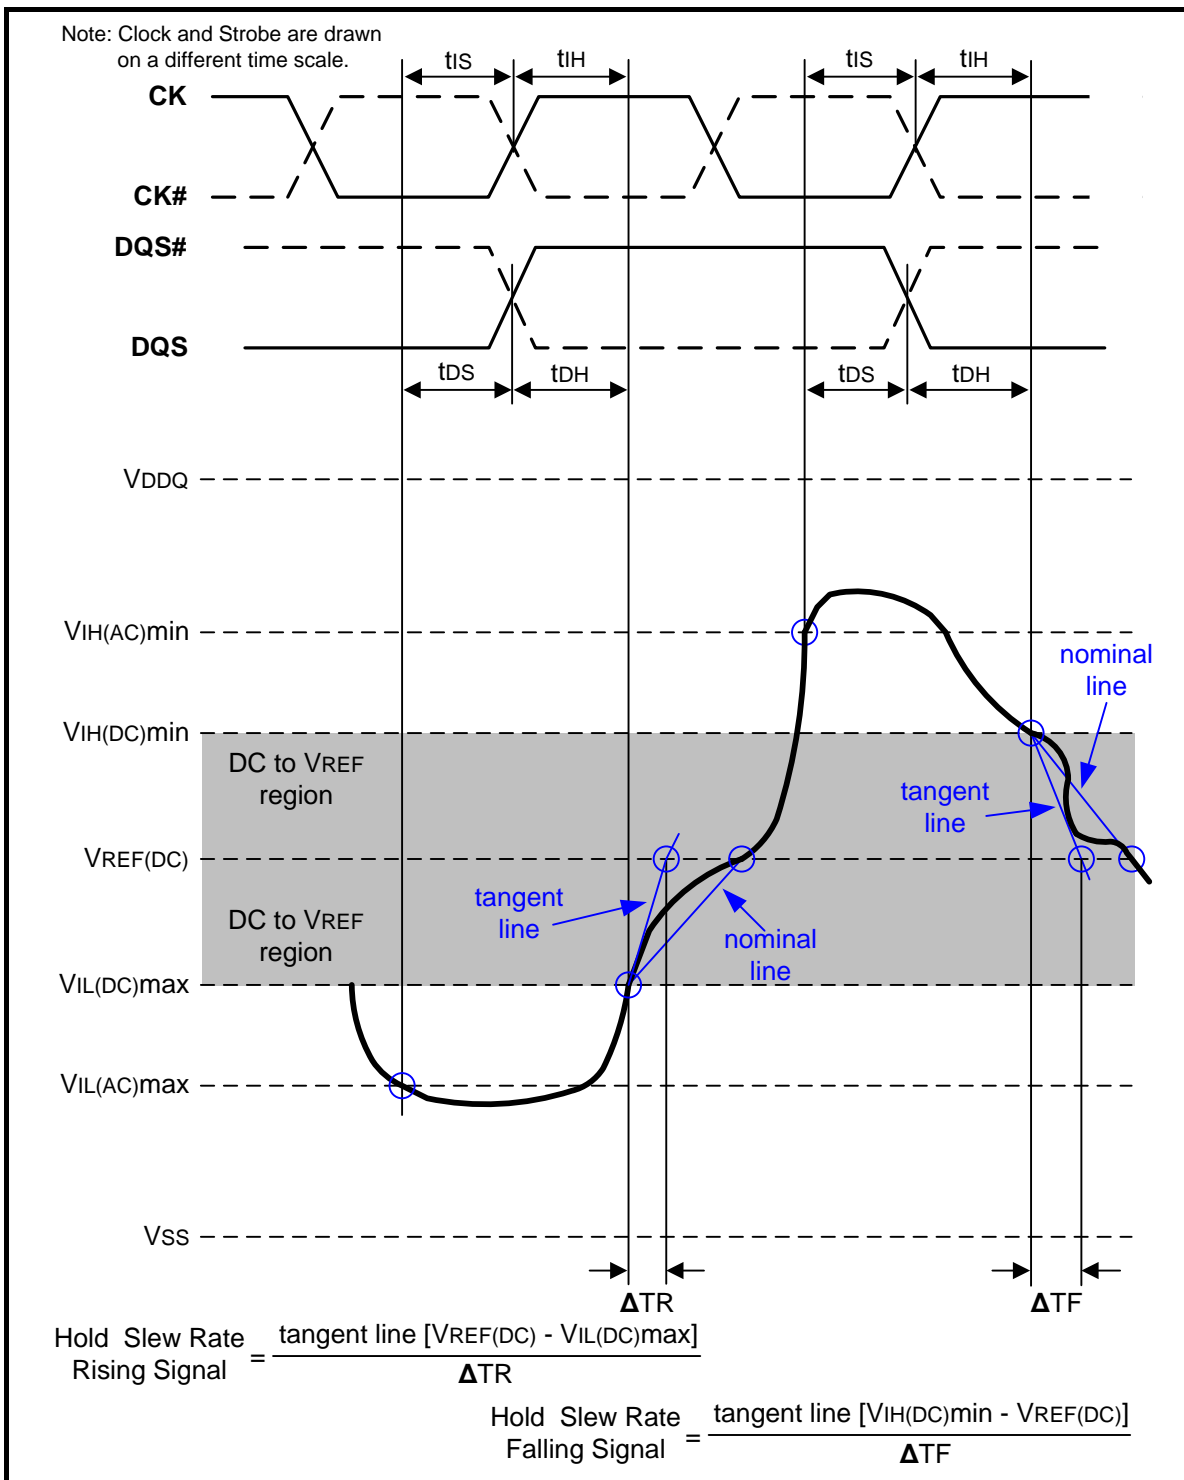

Figure 110 – Illustration of tangent line for for hold time tDH (for DQ with respect to strobe) and tIH (for ADD/CMD with respect to clock)
Hold ( $t_{IH}$ ) nominal slew rate for a rising signal is defined as the slew rate between the last crossing of  $V_{IL}(\text{DC})_{\text{max}}$  and the first crossing of  $V_{REF}(\text{DC})$ . Hold ( $t_{IH}$ ) nominal slew rate for a falling signal is defined as the slew rate between the last crossing of  $V_{IH}(\text{DC})_{\text{min}}$  and the first crossing of  $V_{REF}(\text{DC})$ . If the actual signal is always later than the nominal slew rate line between shaded 'DC to VREF(DC) region', use nominal slew rate for derating value (see Figure 108). If the actual signal is earlier than the nominal slew rate line anywhere between shaded 'DC to VREF(DC) region', the slew rate of a tangent line to the actual signal from the DC level to  $V_{REF}(\text{DC})$  level is used for derating value (see Figure 110).
Hold (tDH) nominal slew rate for a rising signal is defined as the slew rate between the last crossing of VIL(DC)max and the first crossing of VREF(DC). Hold (tDH) nominal slew rate for a falling signal is defined as the slew rate between the last crossing of VIH(DC)min and the first crossing of VREF(DC) (see Figure 108). If the actual signal is always later than the nominal slew rate line between shaded 'DC level to VREF(DC) region', use nominal slew rate for derating value. If the actual signal is earlier than the nominal slew rate line anywhere between shaded 'DC to VREF(DC) region', the slew rate of a tangent line to the actual signal from the DC level to VREF(DC) level is used for derating value (see Figure 110).